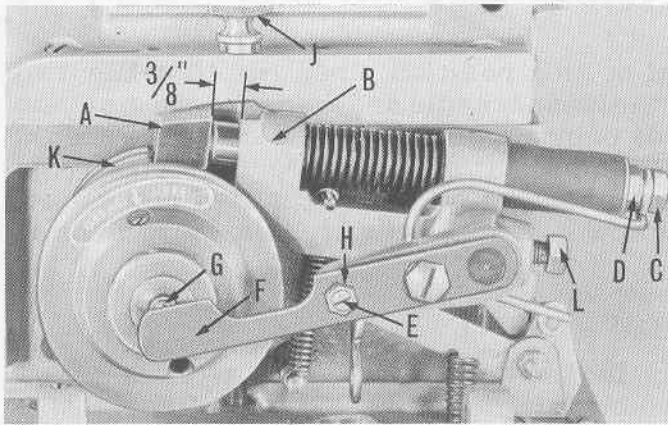
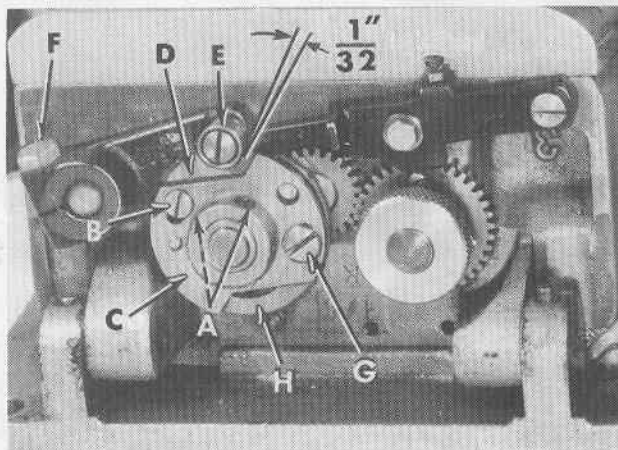
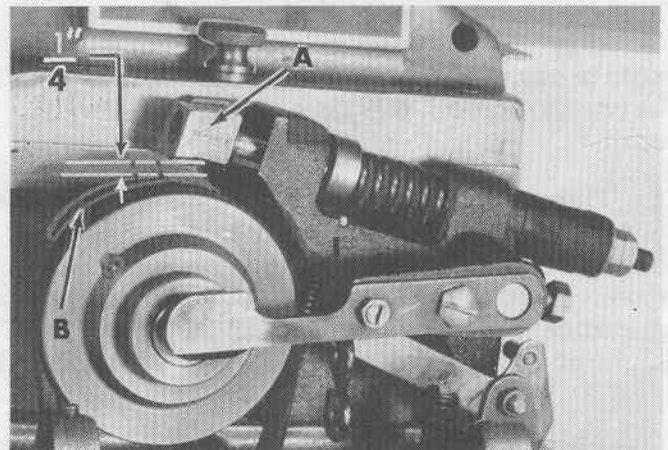
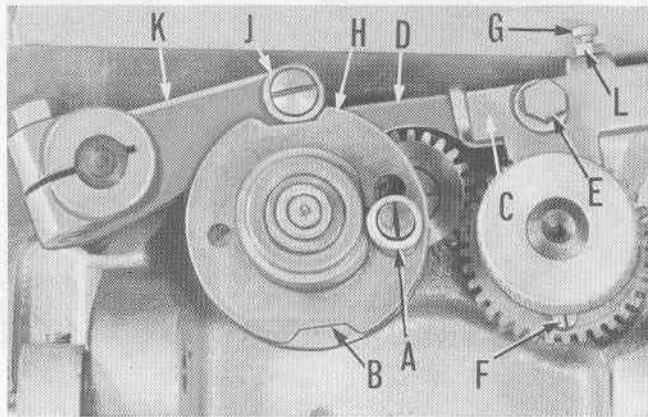

Fig. 1
Fig. 2A
Fig. 3A
Fig. 5
This position is that which is shown in Fig. 1 with the stop motion disc and pawl (K) against the plunger (A).
With the machine in stop position, the stop motion plunger (A, Fig. 1) should be set so that there is $\frac{3}{8}$ inch clearance between the bottom of the plunger and the plunger lever bracket (B). Loosen the back lock nut (C), and adjust the front nut (D) to obtain this setting. Lock the back nut. Adjust screw (E) in cam lever (F) so that there is $\frac{1}{32}$ inch clearance between ball (G) and the thin section of lever (F) when the pulley is pressed in towards machine. Lock screw with nut (H). Make sure that set screw (L) is securely tightened.
With the machine in stop position, loosen the two socket head set screws, (A, Fig. 2A) and screw (B). Rotate "left cam" (C) counterclockwise to the top of its elongated slot (as viewed in Fig. 2A) and tighten screw (B). Rotate cam (C) and "right cam" (D) as required to obtain $1/32$ inch clearance between roller (E) and the front of slot in cam (D); tighten set screws (A).
Depress the treadle to take machine out of stop position, then rotate pulley two complete revolutions in operating direction. Release treadle and measure the distance between plunger (A, Fig. 3A) and the highest point on disc (B). The distance should be $1/4$ inch. Adjustment can be made by loosening clamp screw (F, Fig. 2A) in the stop motion trip lever and moving lever up or down to attain specified clearance. Should it become necessary to move the lever down, depress the treadle while making adjustment. Retighten clamp screw (F).
- Step 1. With the machine in stop position, loosen screws (A, Fig. 2A) and screw (B). Advance "left cam" (C) by rotating it clockwise, SLIGHTLY, relative to the "right cam" (D). Retighten screws (A and B) after referring to NOTE 1 above.
- Step 3. Should disc and pawl (K, Fig. 1) stop short of plunger (A), (this can be checked by rotating disc towards the operator and if the plunger does not catch the disc and pawl, the machine has not reached its stopped position), denoting cam is advanced beyond proper setting. To correct: retard "left cam" (C, Fig. 2A) by rotating it counterclockwise, SLIGHTLY, relative to the "right cam" (D). Refer to NOTE 1 above, before securing screws (A and B).
NOTE: 2. With reference to (A, Fig. 5) under "STITCH SETTINGS", the stitch adjusting knob has been replaced by screw (G, Fig. 2A) which secures cam shoe (H) using the upper or lower hole in "left cam" (C), as applicable.
Depress treadle to take machine out of stop position, and rotate pulley two complete revolutions in operating direction. Loosen knurled screw (J, Fig. 1) and lay machine on its side.
Figure 5 shows the machine in stop position, and set for 12 or 16 stitches. The stitch adjusting knob (A) is at its low position at the bottom of the slot and the gap (B) is closed. To change to 6 or 8 stitches, simply pull out on the stitch adjusting knob (A) and raise it to the top of the slot. At this point, the gap (B) will be open.
When changing from 6 or 8 to 12 or 16 stitches, the machine must be in stop position with the stitch adjusting knob (A, Fig. 5) towards the front. Pull out on the stitch adjusting knob (A) and move it to the bottom of its slot as shown in Fig. 5. Gap (B) will now be closed.
When changing from 6 or 8, or 12 or 16, to 24 or 32 stitches, the machine must be in stop position with stitch adjusting knob (A, Fig. 5) to the front. If the machine is in the 6 or 8 stitch position, pull out on the stitch adjusting knob (A) and move it to the bottom of its slot. Check position of screw (F). It should be at the bottom as shown in Fig. 5. If it is not, the machine will have to be re-cycled once to bring screw (F) into proper position.